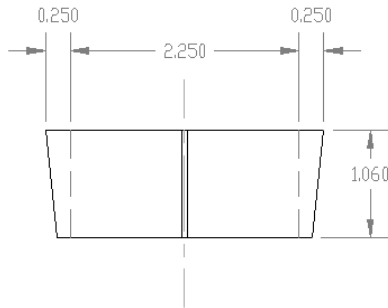

**Figure 14-38:** The edited valve part.
7. Save your drawing. It should look like Figure 14-38.